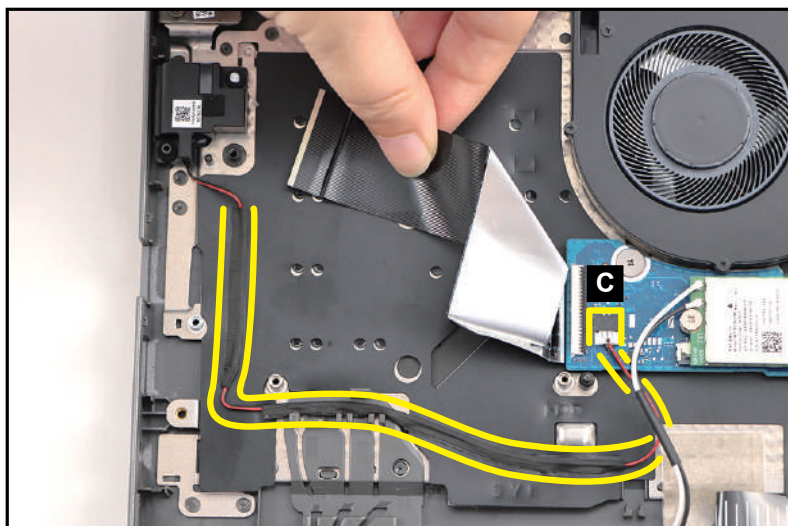

Figure 3-116. Replacing the Right Speaker
2. Route and attach the right speaker cable onto its routing channel. Then connect the speaker cable to the mainboard connector (C) (Figure 3-116).